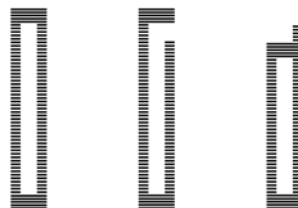

Fig. 55 Fig. 56 Fig. 57
Linen buttonhole, stitch pattern "09", must be sewn by the machine symmetrically (fig. 55.)
- If the buttonhole bartack does not close exactly on the position where the front buttonhole seam starts (fig. 55), proceed as follows:
The bartack must cover the start of the right buttonhole seam (fig. 55).